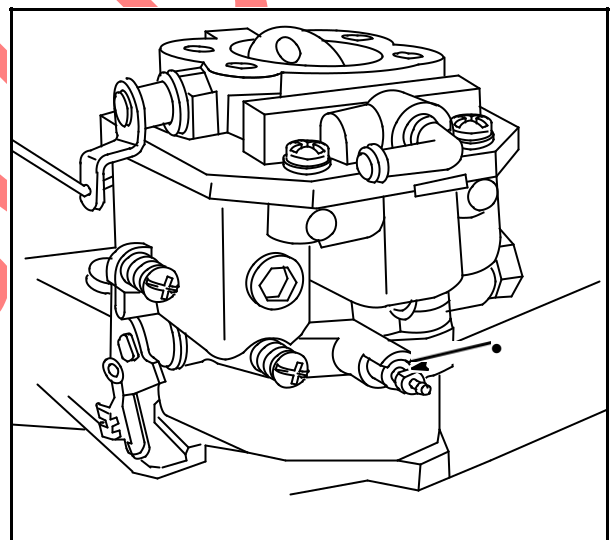

Fig. 7
Turn idle mixture screw (1), Fig. 7, CLOCKWISE until it just seats. DO NOT FORCE.